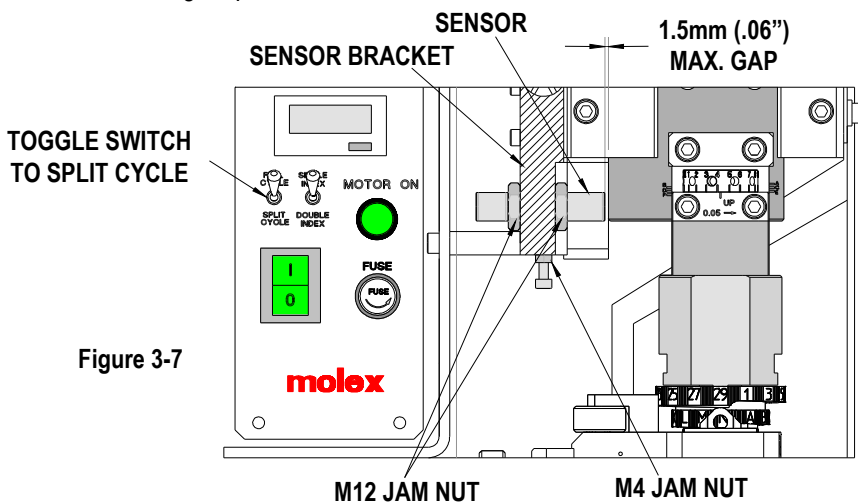

Figure 3-7
4. Loosen the two M12 jam nuts on the split cycle sensor, located on both sides of the sensor bracket. Then loosen the M4 jam nut holding the M4 X 25 socket head screw. Turn the M4 screw clockwise to raise or counter-clockwise to lower. See Figure 3-7. Raise the sensor if the punch is partially crimping the terminal; or lower the sensor if the ram is not closing far enough and not centering the terminal.
5. Tighten the M4 socket head screw and the (2)M12 jam nuts positioning the sensor for the split cycle position. See Figure 3-7.
**Note:** The gap between the sensor and the ram should be 1.5mm (.06") Max. See Figure 3-7.